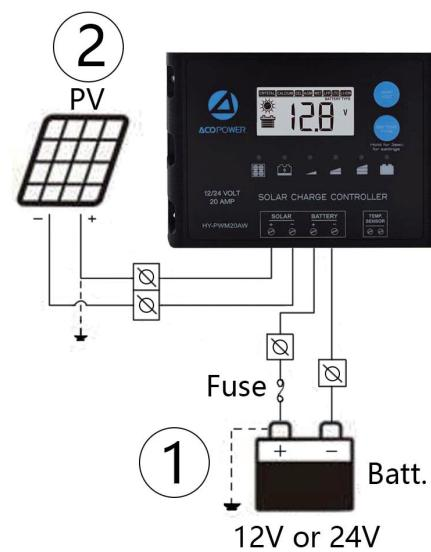

Figure 1 Characteristic
Step 2: When all the connections are complete, the Battery status indicator (5 , Figure 1) should light up if the battery is connected to the charge controller. If the solar panel is under direct sunlight, the charging status indicator (4 , Figure 1) will be on as well. (Detailed information under Specifications section)